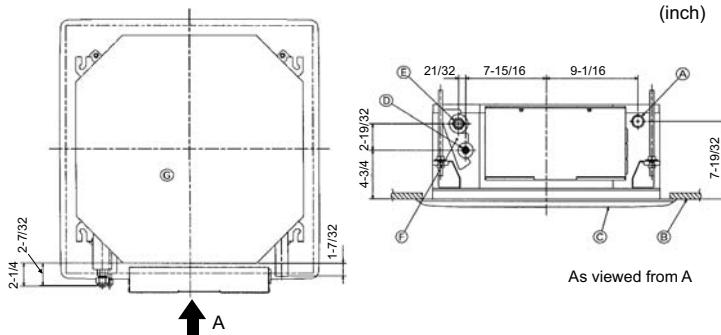

**Fig. 4-6**
- When the main unit can not be aligned against the mounting hole on the ceiling, it is adjustable owing to a slot provided on the mounting plate. (Fig. 4-6)